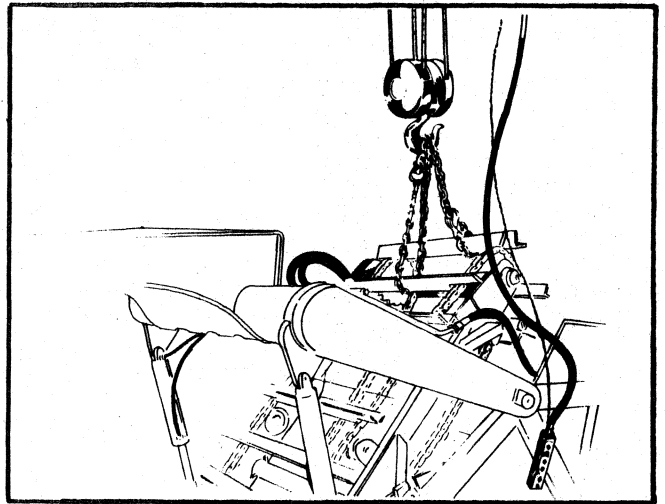

Fig. 1—Hoist on Chain & Drag Assembly
1. Support two drags as near the top of the elevator frame as possible. See Fig. 1.
2. Part the chain at a master link as near as possible to the lowest drag supported by the hoist as shown in Fig. 1. To part the chain, remove cotter pin from link pin and drive link pin from chain. Repeat this procedure on the opposite side of the elevator.